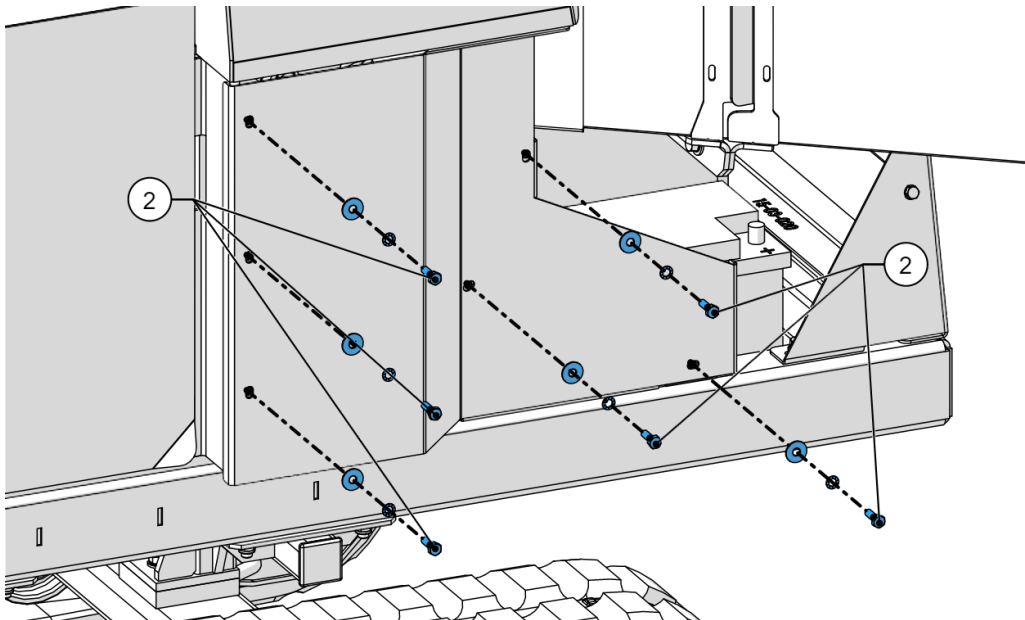

Figure 46 - Remove bolts
3. Remove the bolts securing the panel (2, Figure 46).